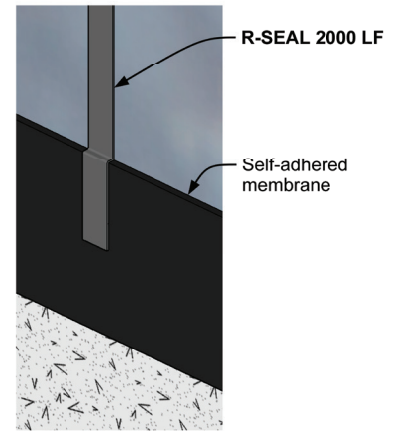
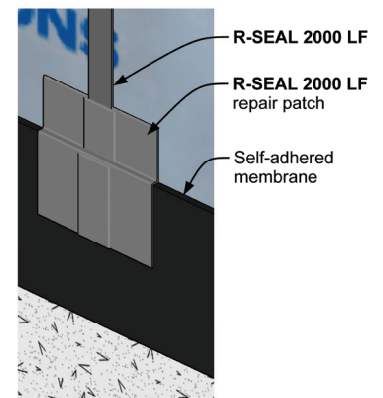

Figure 6
Figure 7
**NOTE:** In areas where R-SEAL 2000 LF and R-SEAL 6000 overlap, always apply R-SEAL 6000 first. **Reference Figure 6.**
I. Intersection with Membranes: When R-SEAL 2000 LF and membranes over-lap, apply the membrane first. **Reference Figure 6.** When this is not possible and the membrane is applied over the liquid flashing, cover the intersection with a liquid flashing patch. The patch must extend 2" into each surface. **Reference Figure 7.**
**NOTE:** In areas where R-SEAL 6000 and R-SEAL 2000 LF overlap, always apply R-SEAL 6000 first. **Reference Figure 6.**